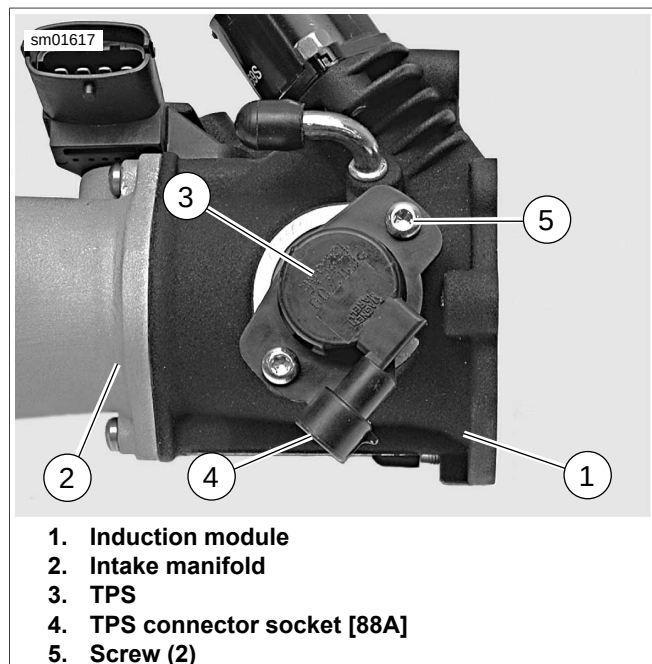

Figure 4-22. Throttle Position Sensor (TPS) Removal: XL Models
3. See Figure 4-22. Unplug TPS harness connector [88B] from connector socket [88A] (4). Cover both connectors with tape.
4. Remove two screws (5). Detach TPS (3) from induction module (1).
- See Figure 4-22. Note orientation of TPS (3) relative to induction module (1) body. The connector socket is at approximately the 7 o'clock position, facing toward intake manifold (2).